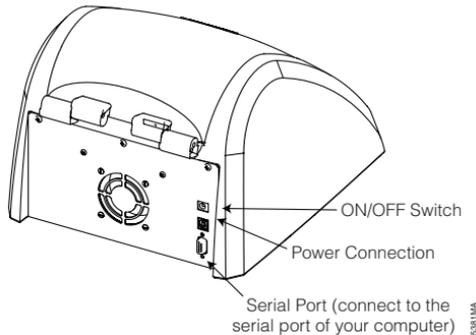

Figure 3. Rear view of the GloMax™ 20/20 Luminometer.
4. Turn the ON/OFF switch to the “ON” position (Figure 3).